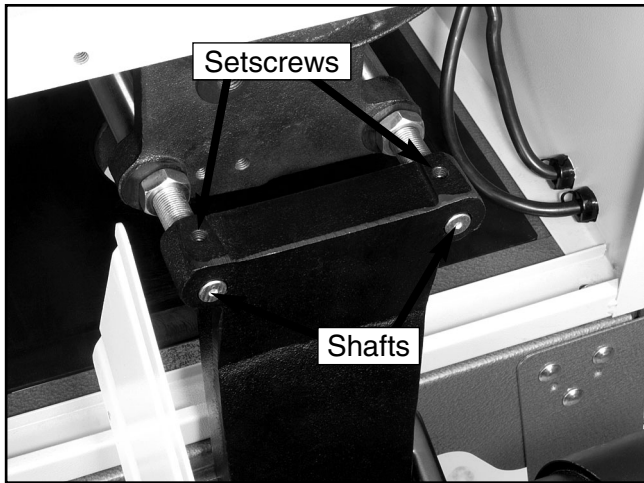

Figure 21. Installed motor assembly.
7. Slide the motor assembly onto the two shafts protruding from the back of the saw (**Figure 21**).
8. Using a 4mm Allen wrench, tighten the two setscrews (**Figure 21**) in the motor bracket to secure the motor assembly to the shafts.